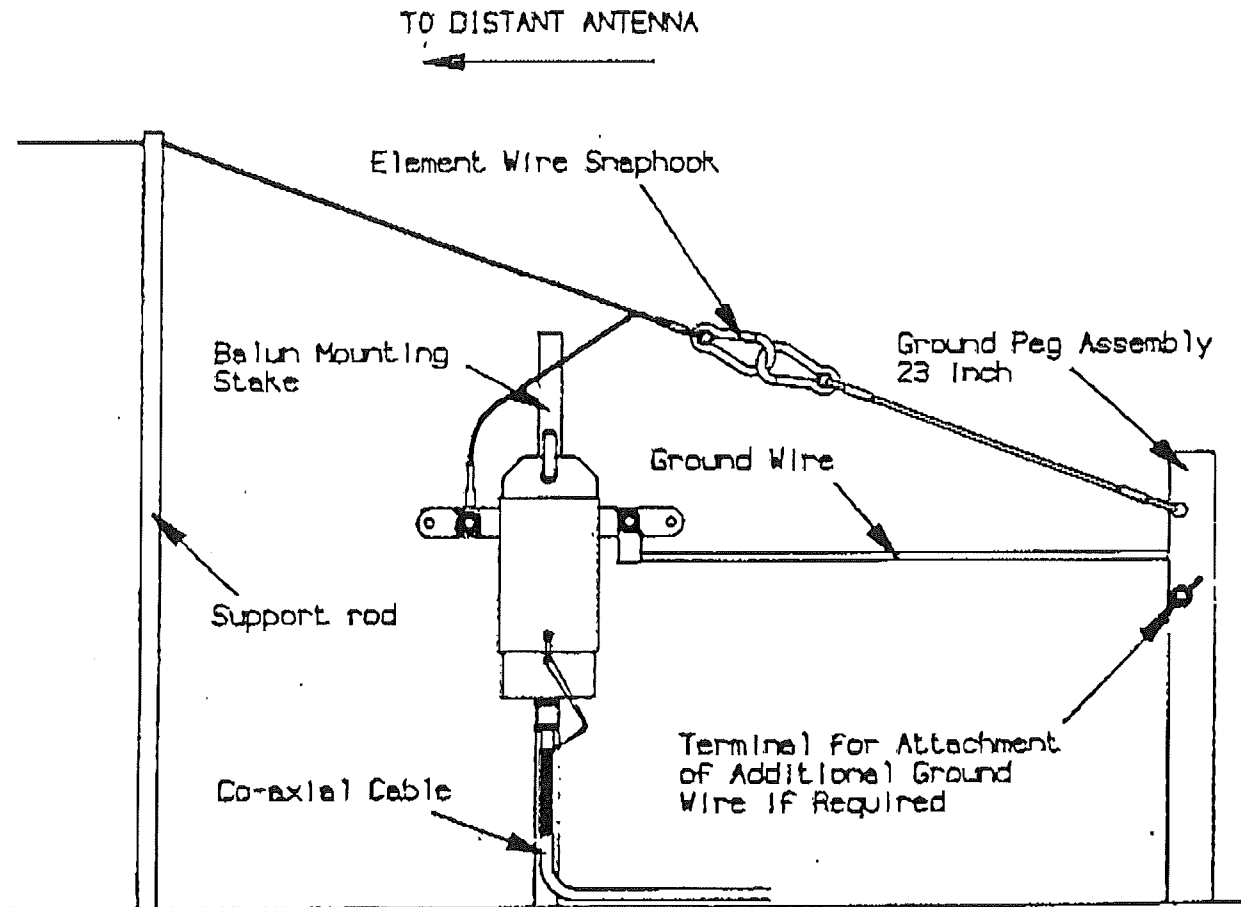

Figure 5-10. Beverage Configuration - Balun Connections
- Step 14 Connect the 117 foot Aerial Wire Spade terminal to the Balun and hook up the Ground Wire (see Figure 5-10).